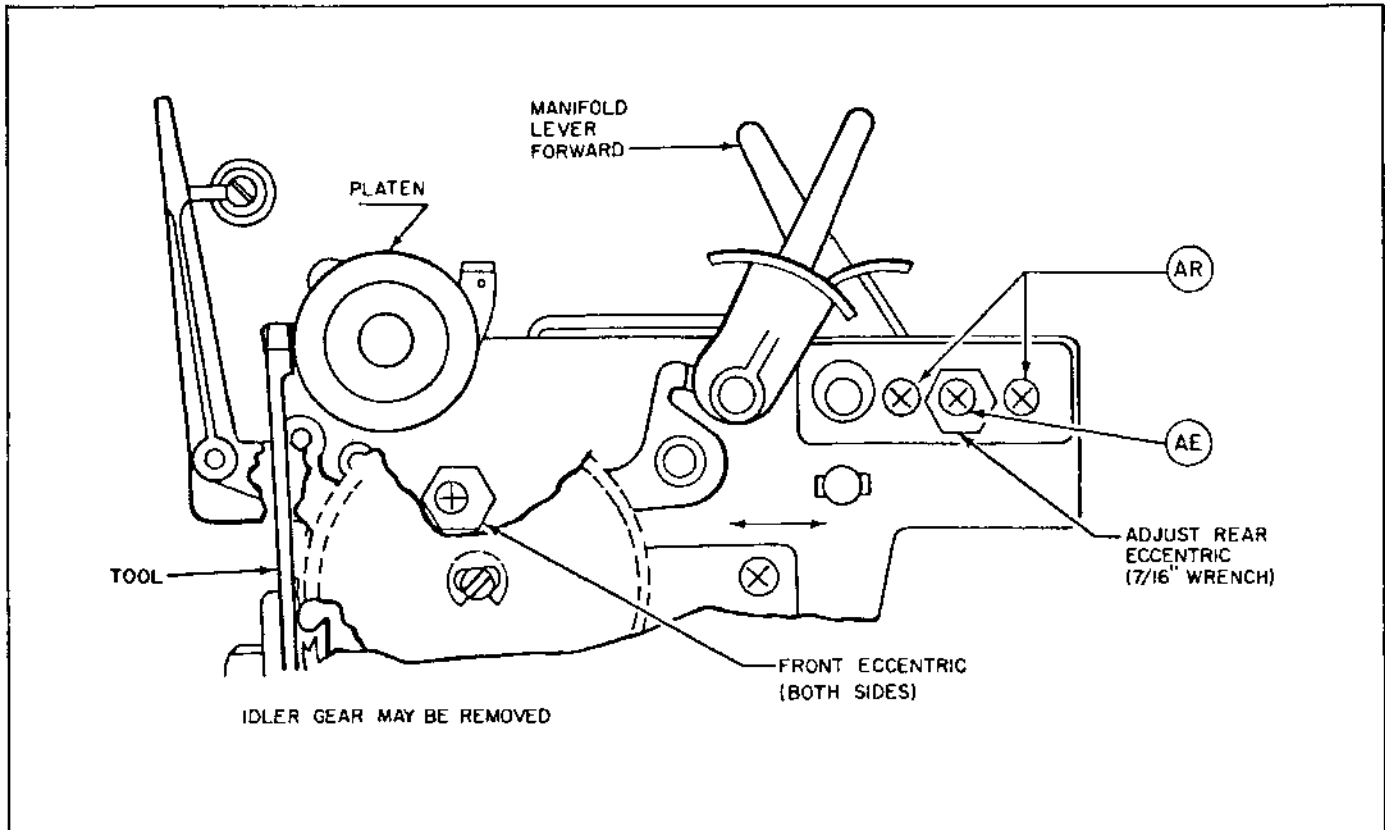

Figure 3-25. Platen-to-Printwheel Adjustment
**3.4.1.4.2 Platen-to-Printwheel.** Refer to Figure 3-25. Proceed as follows:
3.4.1.4.3 Platen Height. Refer to Figure 3-25. Proceed as follows: